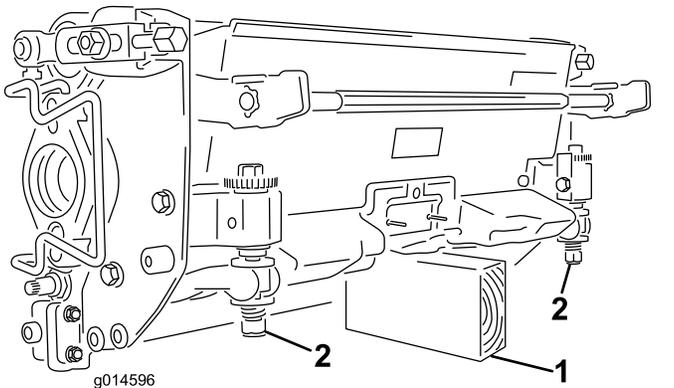

Figure 9
**Important:** Whenever the cutting unit has to be tipped to expose bedknife/reel, prop up rear of cutting unit to make sure nuts on back end of bedbar adjusting screws are not resting on work surface (Figure 9).